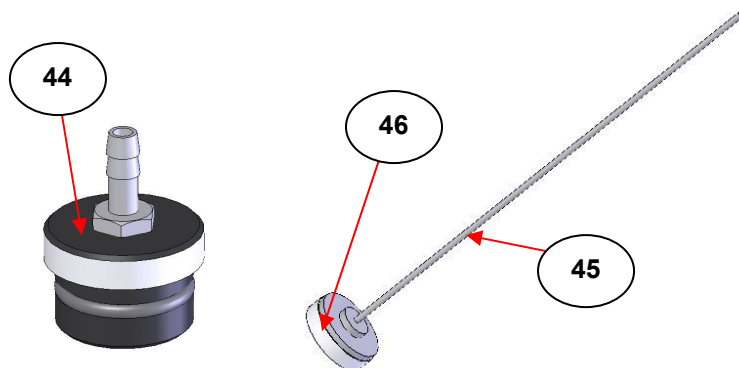

Fig 16. VT Cell Bung and Mushroom Piston Assembly
The refrigerant chamber is equipped with two essential component parts; a bung (44) and a “mushroom” piston assembly (45). The bung is a vented stopper, the vent being a metal “hose type” tube connector. The mushroom piston is a rod with a circular metal base, the underside being covered with a polyurethane foam disc (46). There are two mushrooms with different sizes of foam disc, a large diameter of 33mm and a smaller diameter of 30mm. (See Fig 16.)